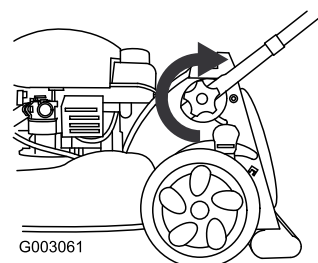

Figure 5
3. Tighten the lower handle knobs as tight as you can (Figure 5).